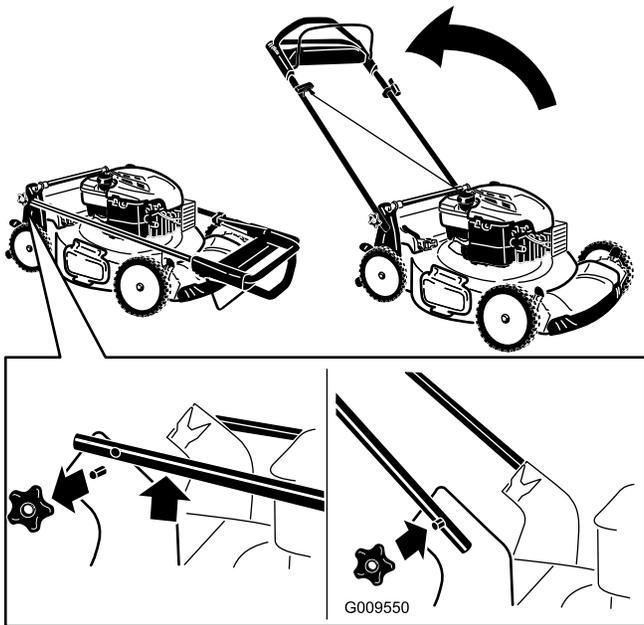

Figure 3
1. Remove the handle knobs from the mower housing (Figure 3).
3. Install and tighten the handle knobs that you removed in step 1 (Figure 3).